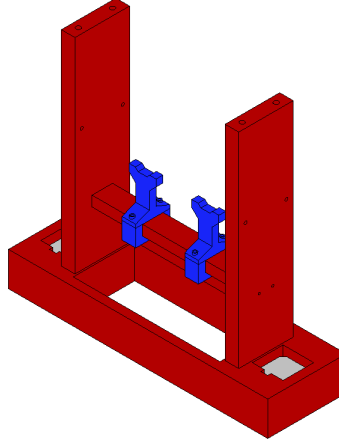

Figure 27: GPR holder assembly with the *auxiliary axis support* and *auxiliary axis cap* elements attached.
5. Consider both the *auxiliary axis support* and *auxiliary axis cap*. Two items of each part are required for this step. The *auxiliary axis cap* has two holes intended for M3 inserts. Using a heat gun or a soldering iron, heat four (4) M3 inserts and place them in the *auxiliary axis cap* elements. Allow the inserts to cool down before proceeding. Locate the *auxiliary axis cap* underneath the *auxiliary strut*. Place the *auxiliary axis support* on top of the *auxiliary strut* and secure it in place with two (2) M3 screws. Figure 27 presents the assembly.